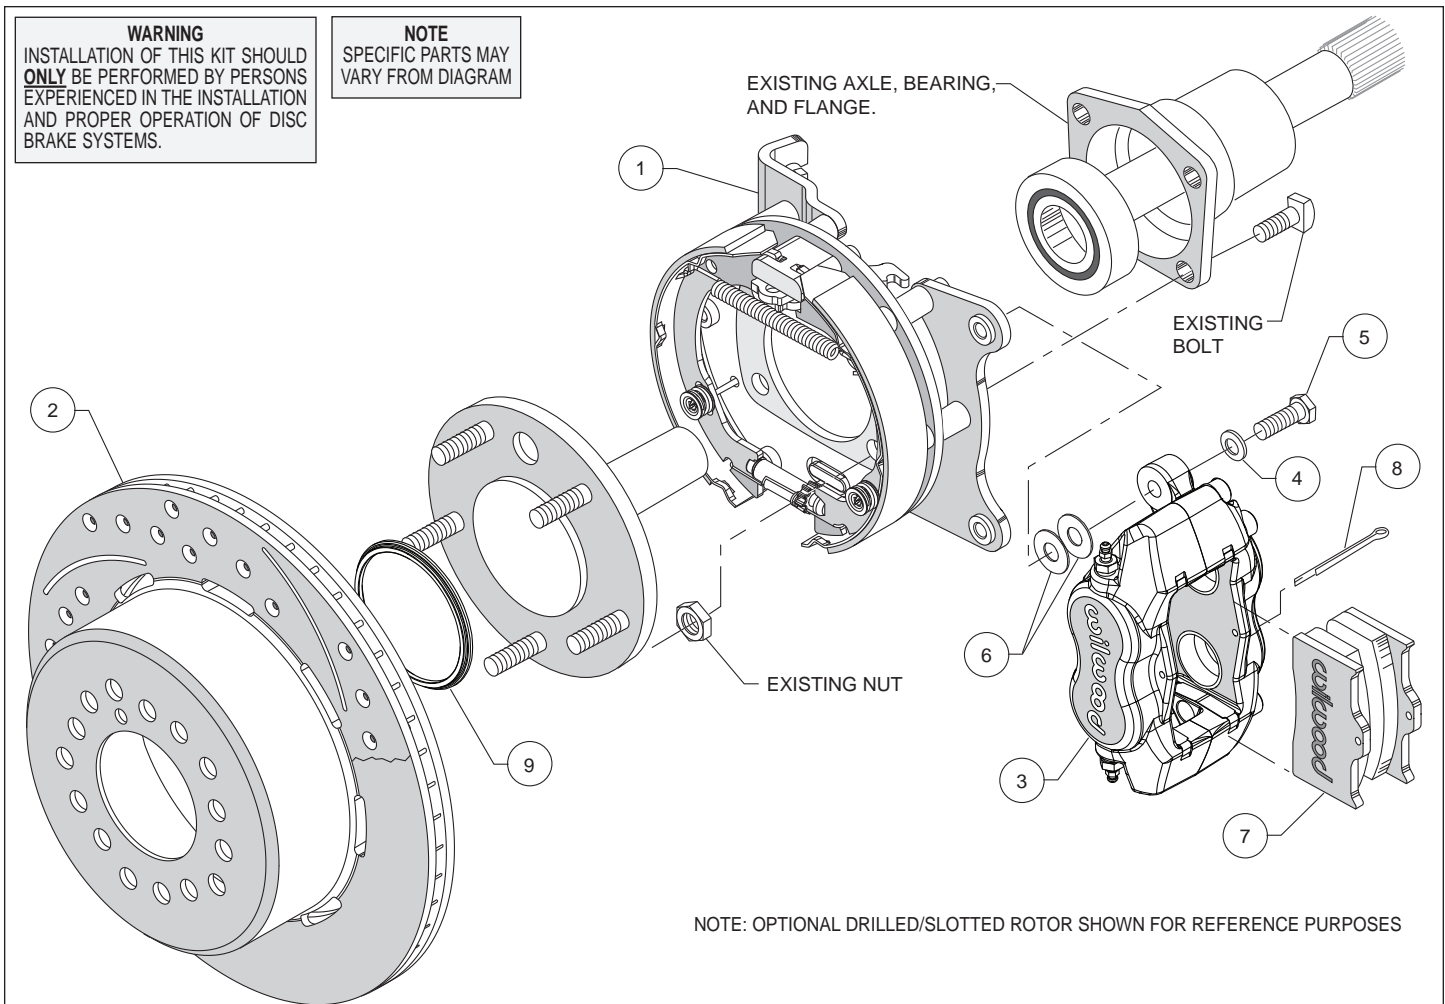
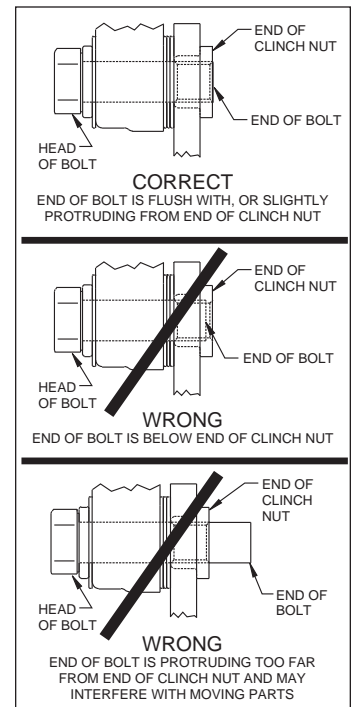

Figure 1. Typical Installation Configuration
Figure 4. Clinch Nut Engagement Diagram
Assembly Instructions (numbers in parenthesis refer to the parts list, and Figure 1 on the preceding pages): **CAUTION:** All mounting bolts must fully engage clinch nuts. Be sure to check that all bolts are either flush or protruding through flanged side of clinch nut after shimming, Figure 4.
- Orient the bracket assembly (1), as shown in Figure 1, and mount to the axle housing flange using the Original Equipment Manufacturer (OEM) bolts and nuts, Figure 1. Ensure that the bracket assembly backing plate fits flush against the axle housing flange. Apply red *Loctite*® 271 to the OEM bolt threads and torque to OEM specifications.
- Slide the rotor registration adapter (9) onto the axle register on the axle flange with the smaller O.D. facing toward the rotor/hat (2), Photo 1. Align the correct hole pattern in the rotor/hat with the stud pattern on the axle flange and slide into place, Figure 1 and Photo 2. **NOTE:** The rotor/hat must fit flush against the axle flange or excessive rotor run out may result.
- **NOTE:** Please reference the caution statement at the beginning of the assembly instructions. Mount the caliper (3) onto the caliper mounting bracket (1) using bolts (5) and washers (4), as shown in Figure 1.
- Temporarily tighten the mounting bolts and view the rotor (2) through the top opening of the caliper. The rotor should be centered in the caliper, Photo 5. If not, adjust by adding or subtracting shims between the bracket and the caliper. Always use the same amount of shims on each of the two mounting bolts. **NOTE:** The end of each bolt must be flush with or slightly protruding from the head of the clinch nut, as shown in Figure 4. If necessary place spare shims between washer (4) and caliper mounting ear to achieve the proper clinch nut engagement. Once the caliper alignment and clinch nut engagement are correct, remove the bolts one at a time, apply red *Loctite*® 271 to bolt threads, and torque to 40 ft-lb.
- Install the disc brake pads (7) into the caliper, with the friction material facing the rotor (2), and secure in place using cotter pin (8), Photo 6.
- NOTE:** Clevis and cable kits which attach to the parking brake assembly are not included in the Wilwood parking brake kit. Wilwood offers a generic style parking brake cable kit, P/N 330-9371 for this application which can be ordered separately from your local Wilwood dealer or by calling Wilwood customer service at (805) 388-1188.
- Before final installation of the wheel, install three lug nuts, remove the rubber grommet in the bracket kit assembly (1) and adjust the parking brake shoes outward (using a drum shoe adjustment tool available at your local auto parts store) while spinning the rotor/hat (2) until a slight drag is felt against the hat/drum. Replace the rubber grommet when finished.